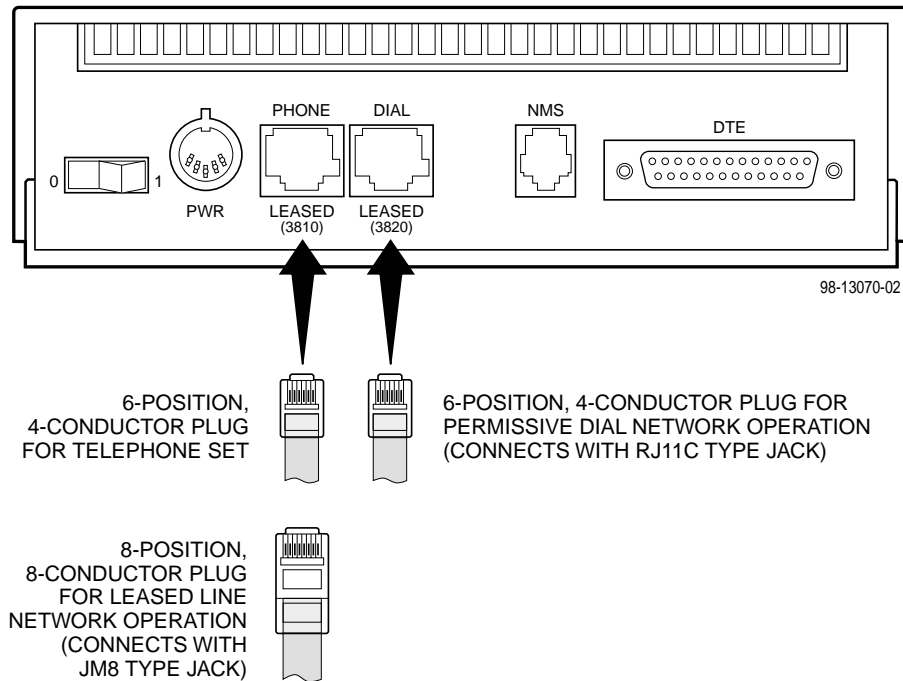
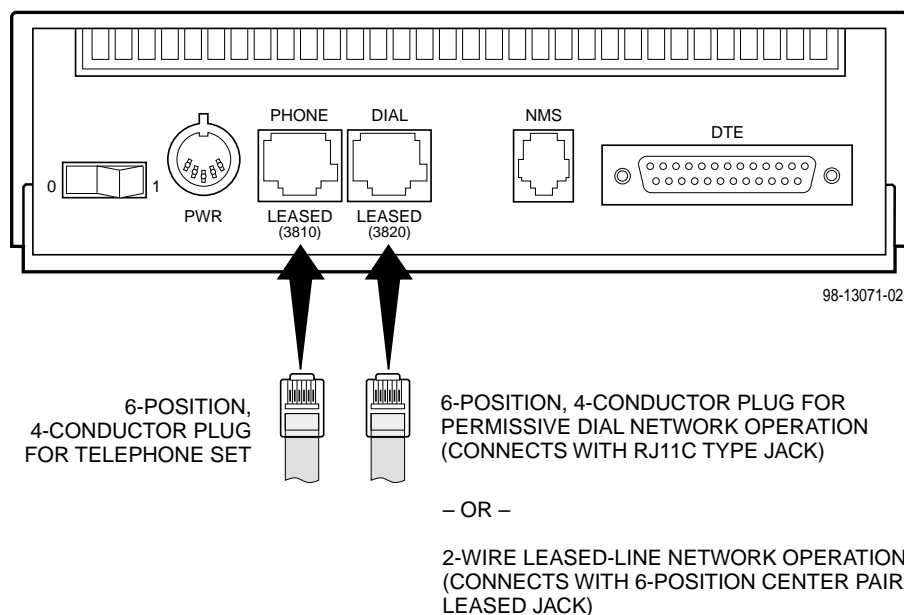

Figure 2-2. Model 3810 Rear Panel
Figure 2-3. Model 3820 Rear Panel
The rear panel of both the Model 3810 and Model 3820 modems have the following switches and connectors (see Figures 2-2 and 2-3):
Figure 2-2 and Figure 2-3 show how Model 3810 and Model 3820 modems are connected to certain TELCO jack types using the supplied cables. For other TELCO connections, refer to Appendix E.
1. Insert the 6-position, 4-conductor modular plug into the jack labeled DIAL/LEASED (3820). See Figure 2-2.
1. Insert the 8-position, 8-conductor modular plug into the jack labeled PHONE/LEASED (3810). See Figure 2-2.
1. Insert the 6-position, 4-conductor modular plug into the jack labeled DIAL/LEASED (3820). See Figure 2-3.